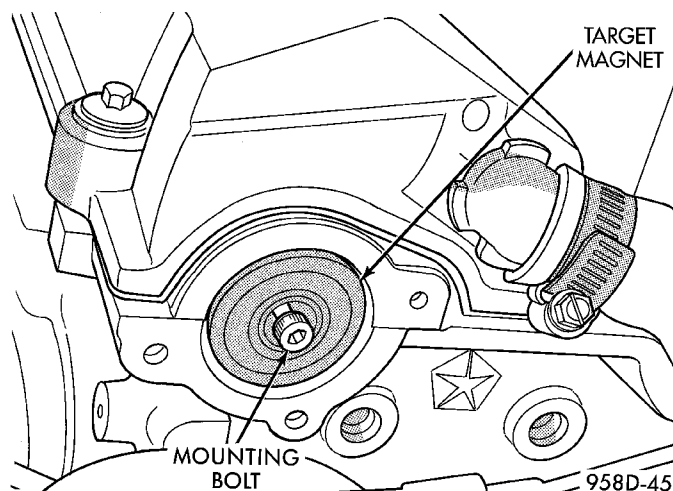

Fig. 35 Target Magnet Removal/Installation
(1) Remove filtered air tube from the throttle body and air cleaner housing.
(2) Disconnect electrical connector from camshaft position sensor.
(3) Remove camshaft position sensor mounting screws. Remove sensor.
(4) Loosen screw attaching target magnet to rear of camshaft (Fig. 35).